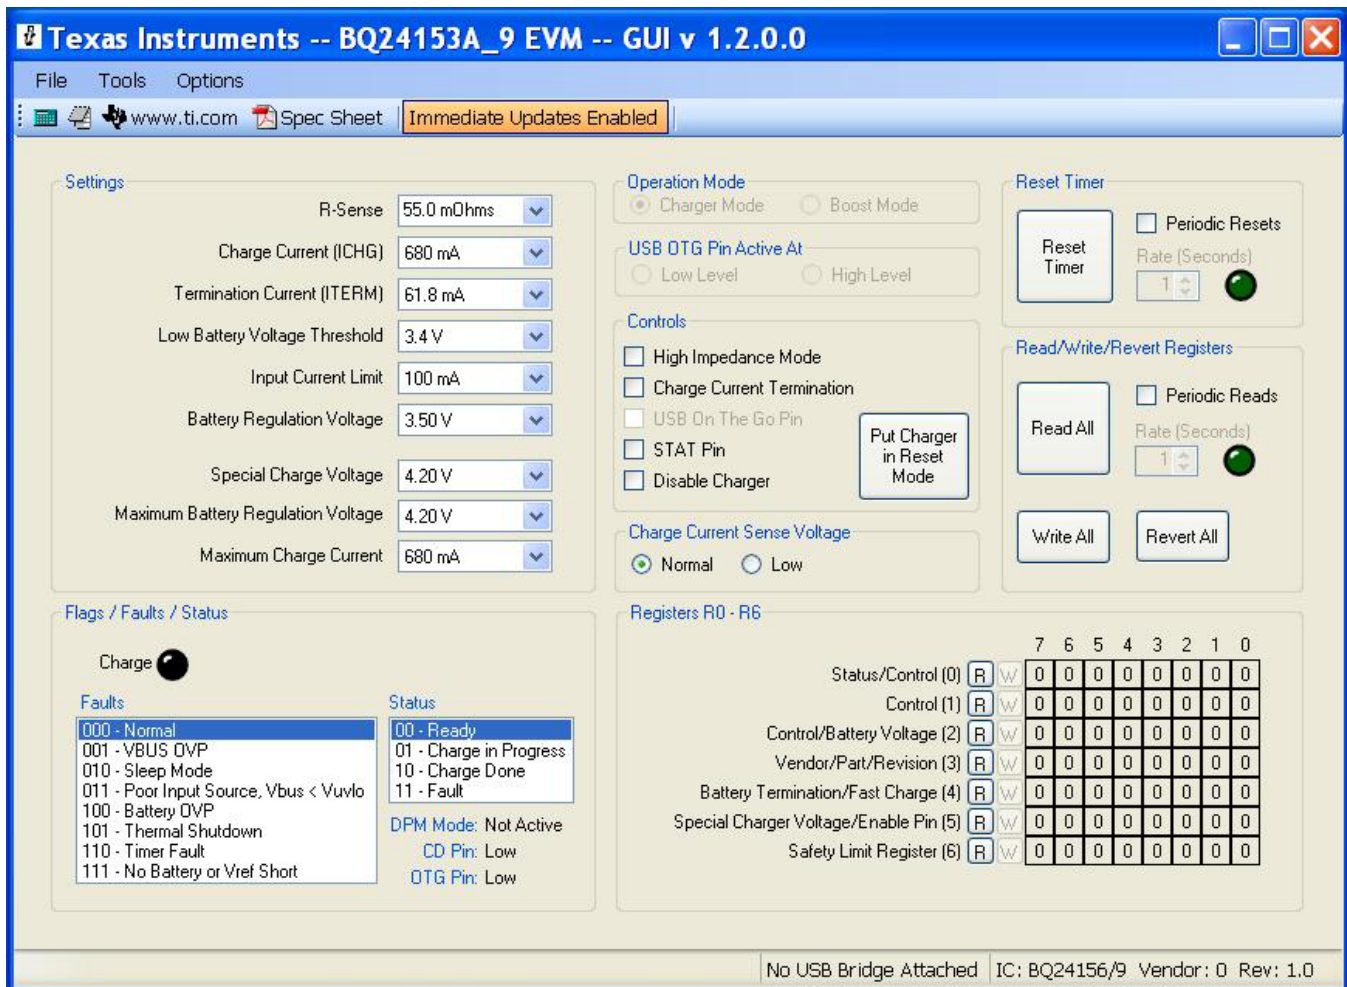

Figure 3. Main Window of bq24153A_9 Evaluation Software
- Open the bq24153A_9 evaluation software. Select part number and click the GO button. The main window of the software is shown in Figure 3.